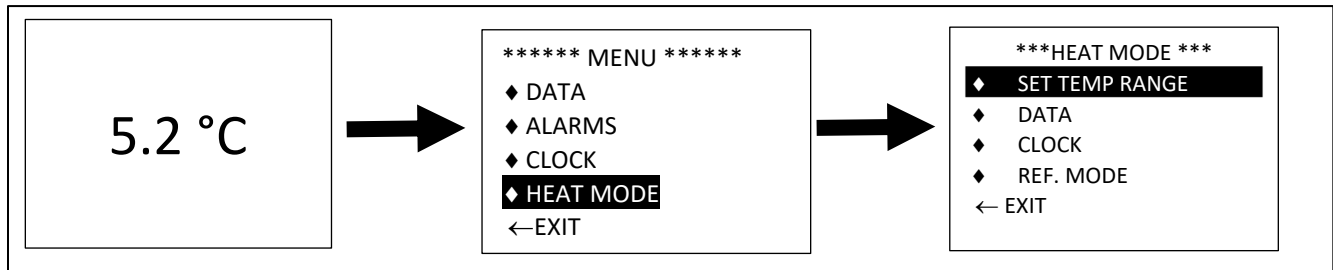

Figure 17: xFridge Heat Mode Access
- Press MENU/SELECT and use ▲ and ▼ to highlight “HEAT MODE”, then press MENU/SELECT as shown in Figure 17.